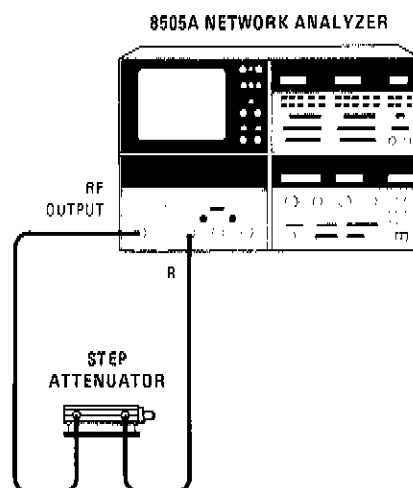

Figure A4-5. Power Output Range Test Setup
- b. Connect equipment as shown in Figure A4-5. Set external step attenuator to 80 dB.